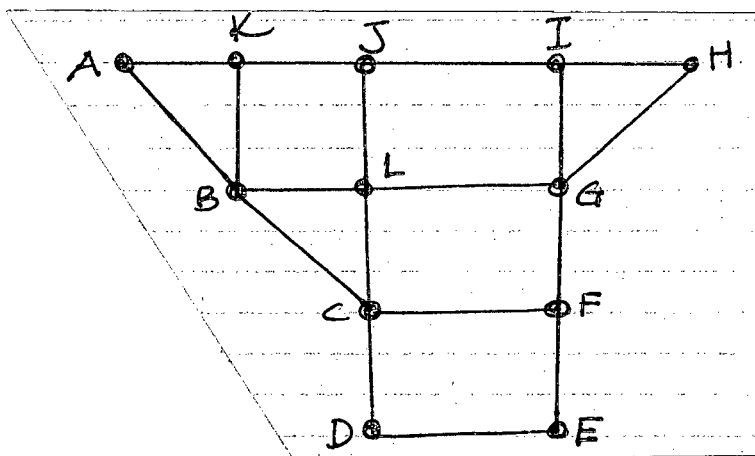

Fig. 9
7. (a) Why Gauss quadrature formula is preferred in finite element analysis? Write down also the expression that the Gauss method uses to compute a function at predetermined sampling points. (10)
- (c) Discuss convergence criteria for isoparametric elements. (8)
- (b) Describe the sequence of the development of front in terms of letters used for nodes as the front creeps forward one element after another as shown in Figure 9. (13)